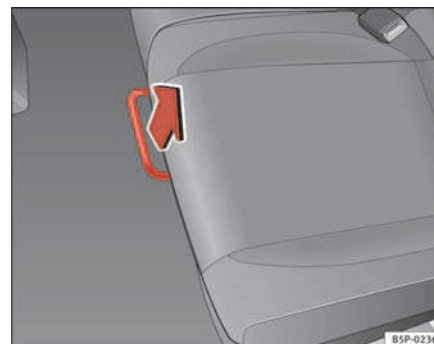

Fig. 96 For unlocking the rear seat
- In the seated position, unlock the lever in the direction of the arrow ⇒ page 131, fig. 96.